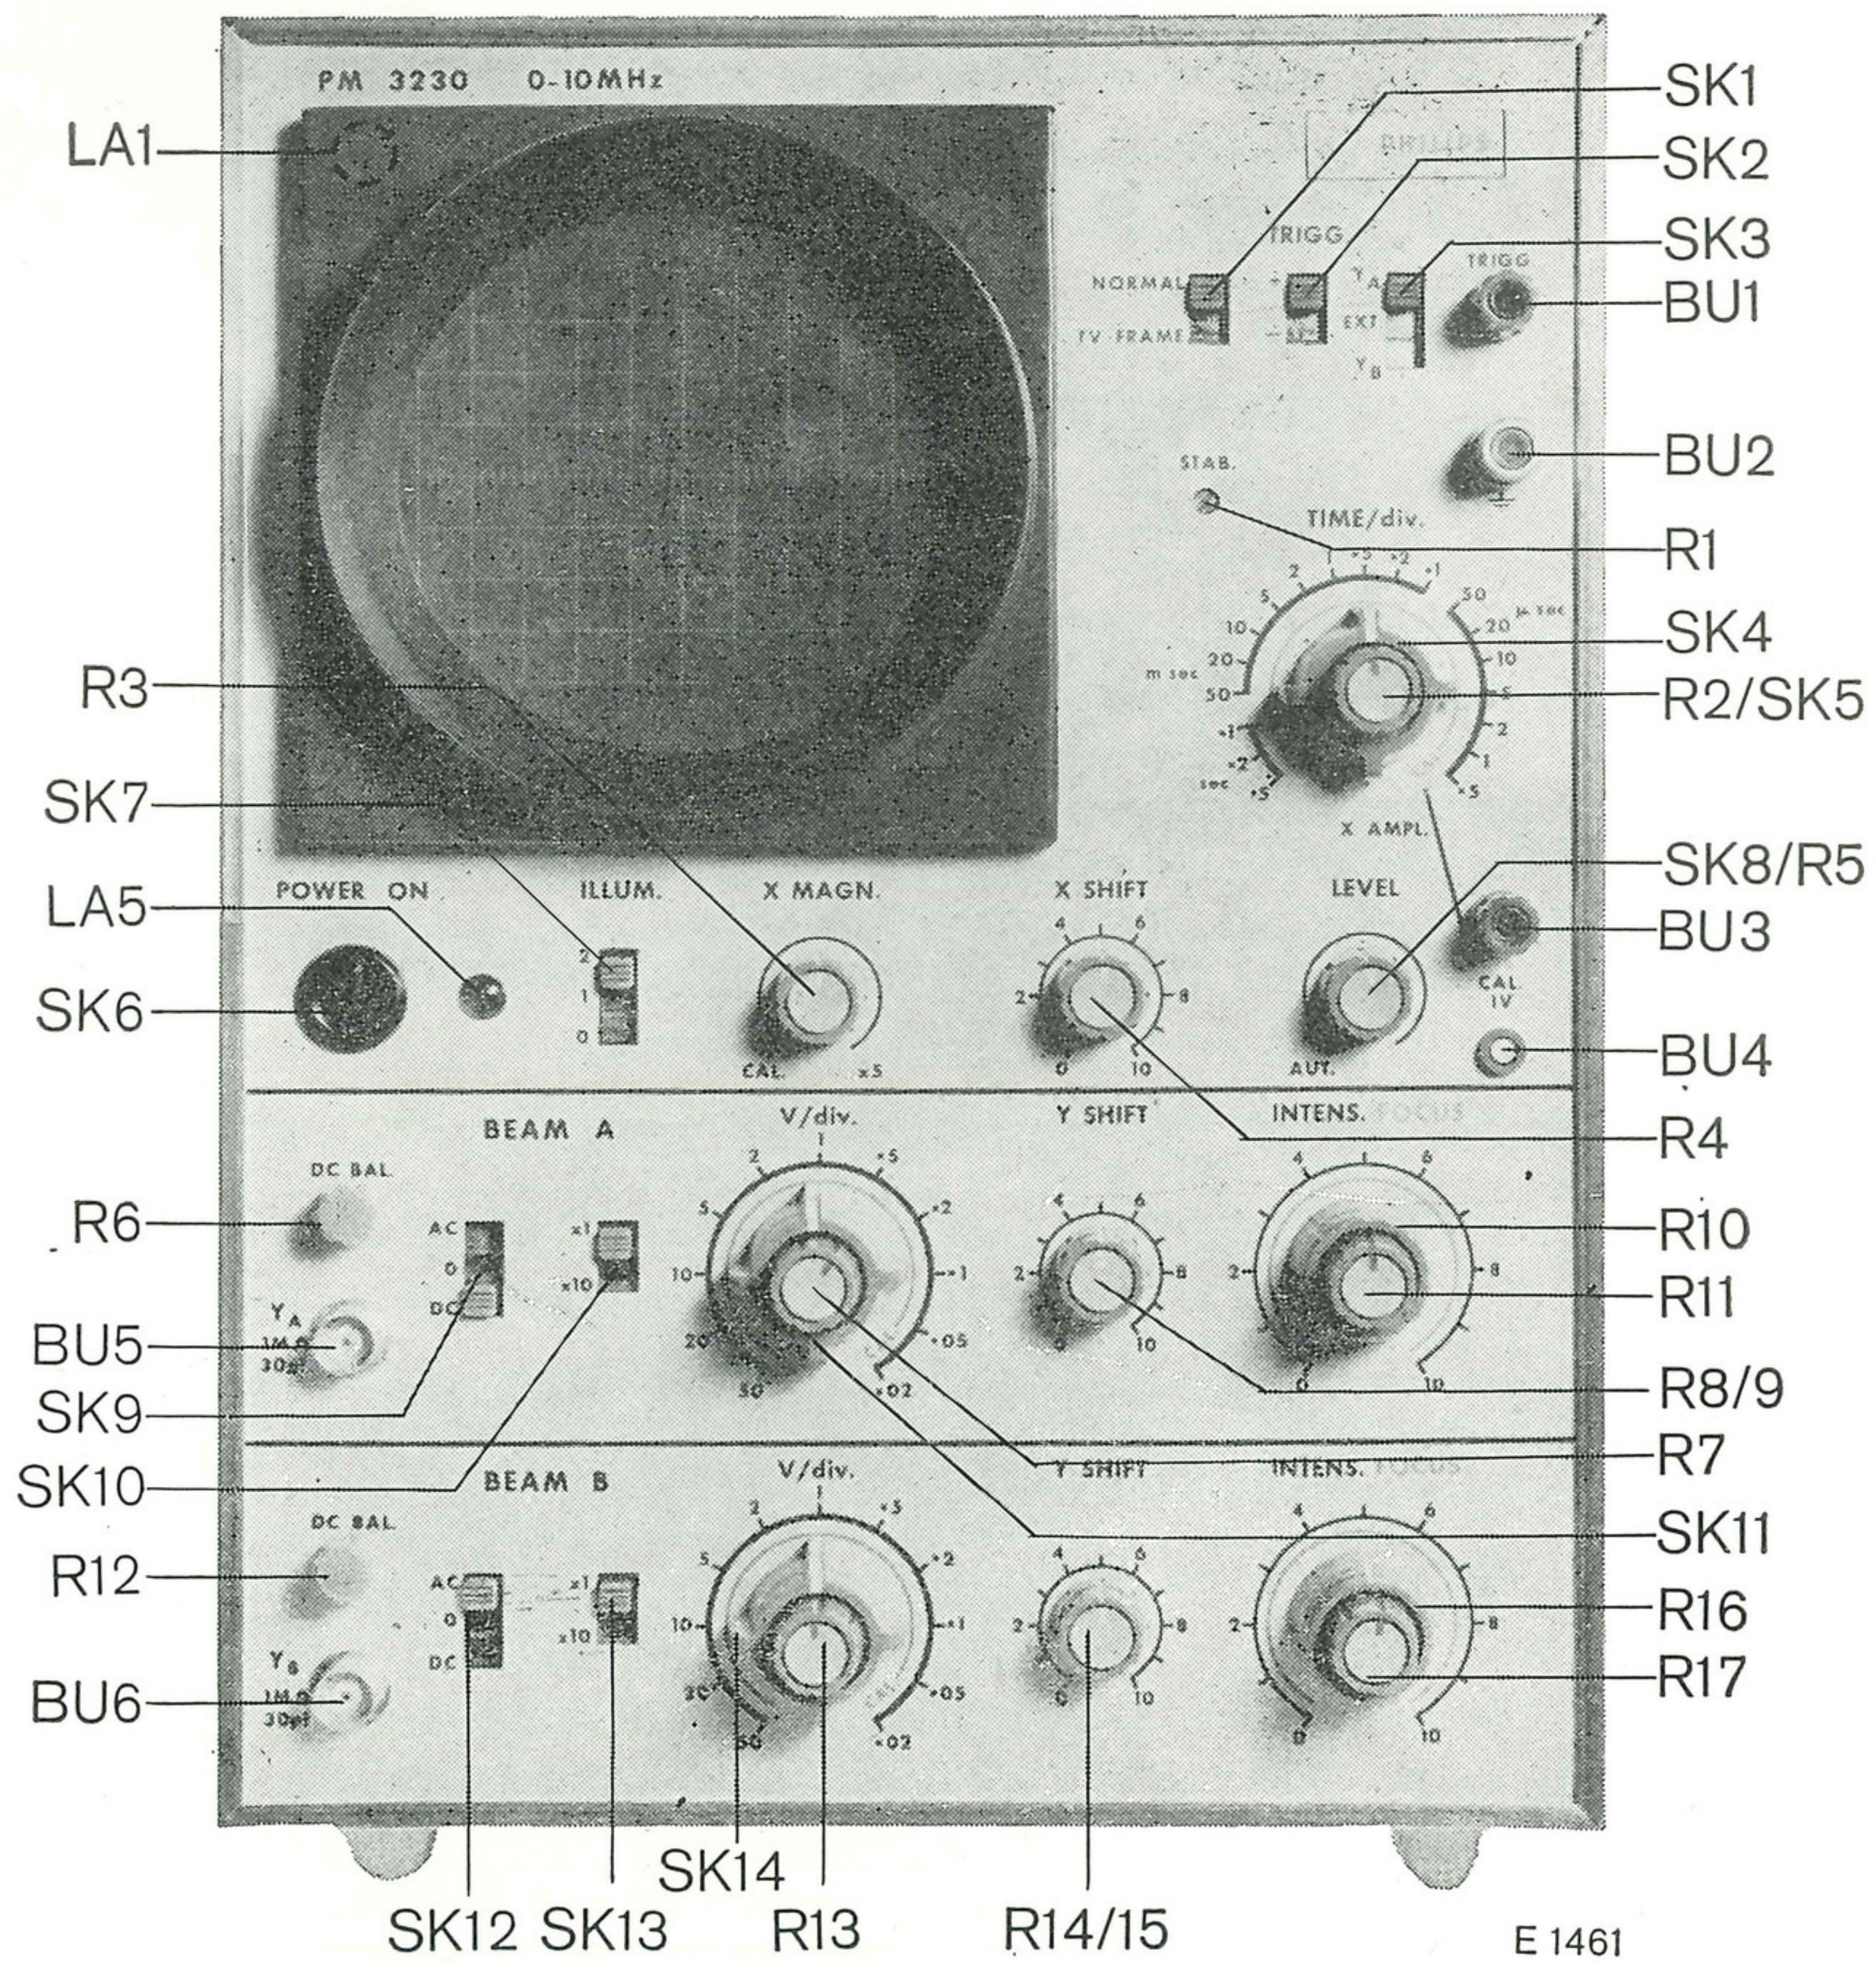

Fig. 5. Controls and sockets
- Set the mains swith to "POWER ON". The lamp LA5 (Fig. 5) will light up.
Please refer to Fig. 5.